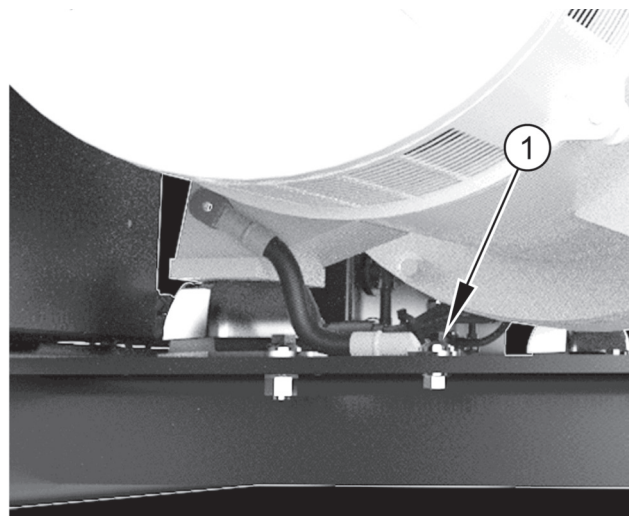

Figure 35
Figure 35 shows a typical example of how to ground the unit, using an earthing strap and bolt (item 1).